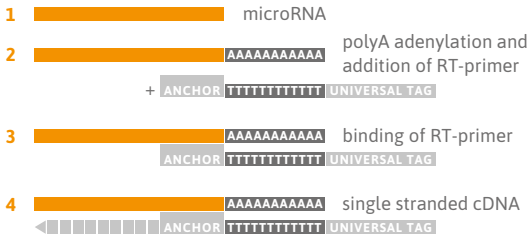

Figure 3
A universal reverse transcription (RT) reaction is performed, as shown in Figure 3 (Step 1–2), which means that all microRNA species are converted into complementary DNA (cDNA) at the same time. This enables parallel quantitative PCR (qPCR) detection of different microRNA sequences in one cDNA sample using the hepato*miR*[®] test plate.